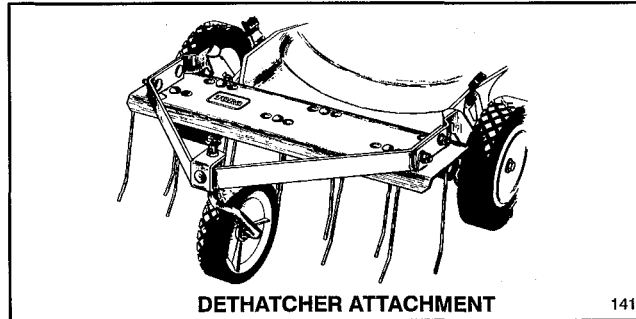

Figure 34
1. **Dethatcher Kit, Model No. 59131**—As spring tines on the Toro Dethatcher (Fig. 34) scratch and vibrate through the grass, thatch is loosened and cut by the mower.